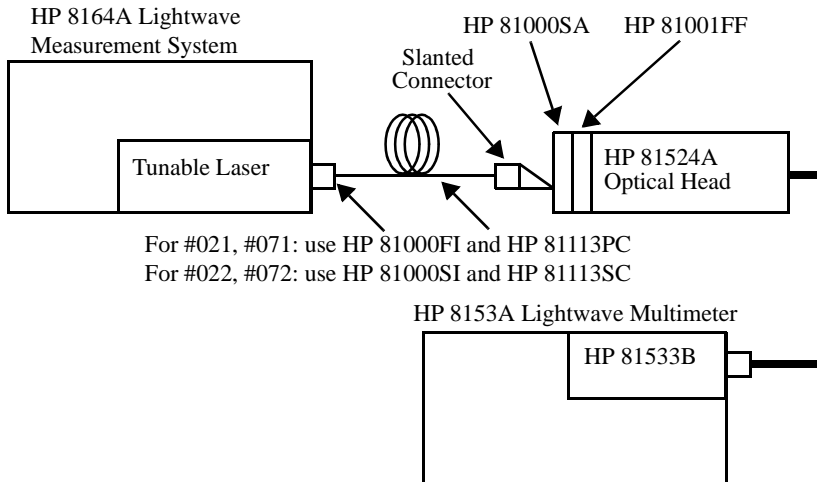

Figure D-3 Test Setup for Calibrating the HP 81001FF Attenuation Filter
- 8 Attach the HP 81001FF Attenuation Filter to the Optical Head as shown in Figure D-3. Move the patchcord as little as possible,